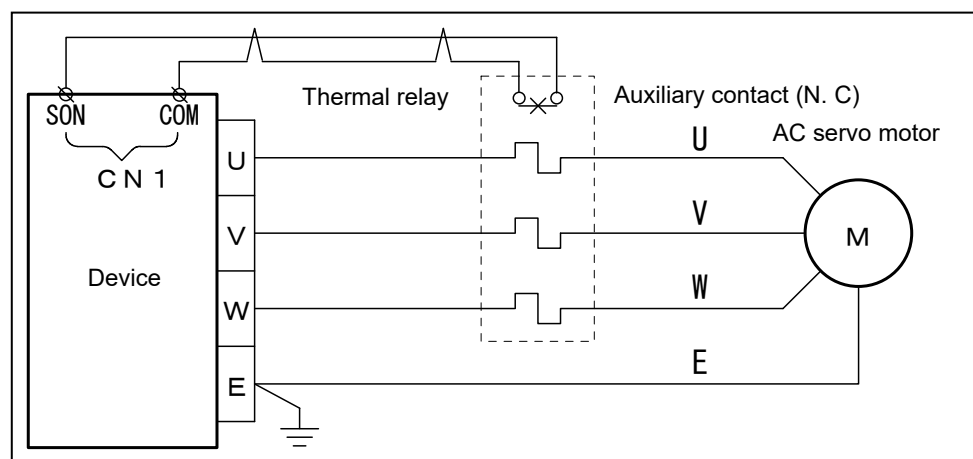

Figure 3-7 Motor wiring
- (9) The device is equipped with an electronic thermal unit. When adding a thermal relay externally, set the current value to the rated current of the motor. If the thermal relay is activated, set up the sequence to switch OFF the Servo-on signal (SON) by using the auxiliary contact of the thermal relay, and stop the motor operation. (Refer to Figure 3-7)